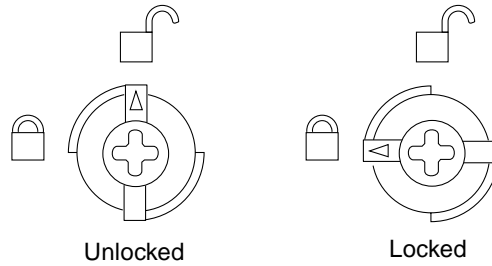
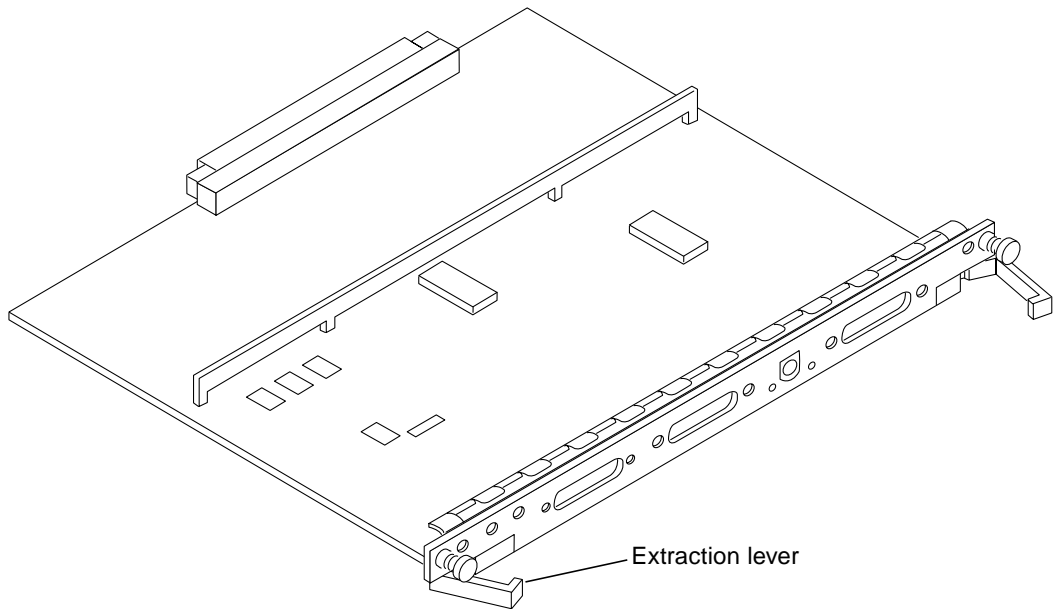

FIGURE 4-6 Unlocking and Locking Quarter-Turn Access Slots
FIGURE 4-7 Extraction Lever in Extract Position
Insert the screwdriver into each quarter-turn access slot (the slots are located on the left and right sides of the board front panel) and then turn a quarter turn so that the arrow points to the unlocked position (FIGURE 4-6).
4. Pull the ends of both extraction levers outward simultaneously to unseat the board centerplane connector from the centerplane receptacles (FIGURE 4-7).
Insert the screwdriver into each quarter-turn access slot (the slots are located on the left and right sides of the board front panel) and then turn one-quarter turn so that the arrow points to the unlocked position (FIGURE 4-6).
3. **Pull the ends of both extraction levers outward simultaneously to unseat the board from the centerplane receptacles (FIGURE 4-7).**
The board will not seat fully unless the levers are in this starting position and the access slots are unlocked. See FIGURE 4-6, and FIGURE 4-7 on page 4-9.
4. **Mechanically lock the board to the system chassis by inserting a Phillips No. 1 screwdriver into each quarter-turn access slot and then turning to the locked position. See FIGURE 4-6 on page 4-9.**